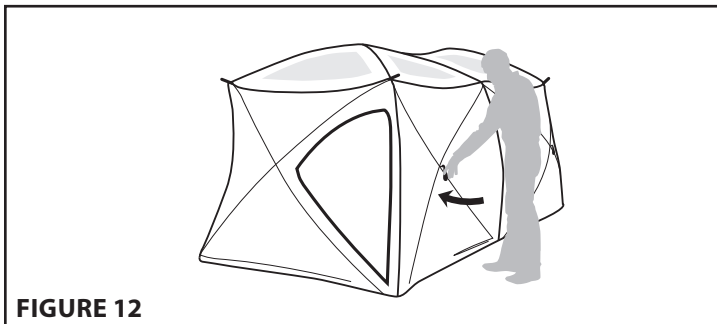

FIGURE 12
5. Move to the outside of the tent and zip all doors shut to prevent tangling of poles. Push inward on each of the side walls to collapse them. [**SEE FIGURE 12**]